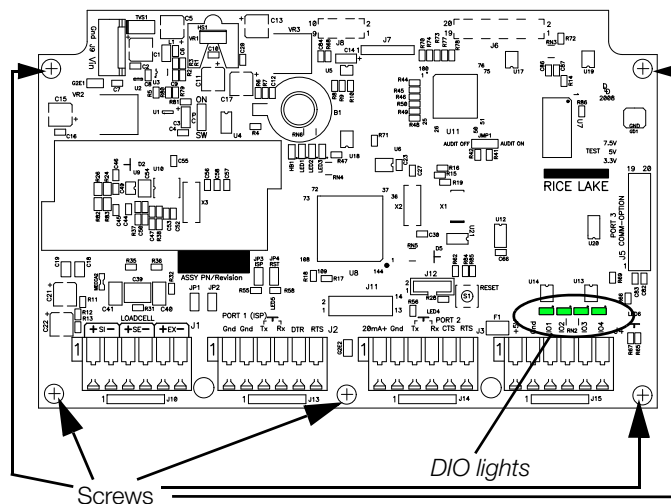

Figure 2-4. Digital I/O lights and screw locations
The Digital I/O can be configured as either digital inputs or digital outputs as determined by the DIO menu (see Section 3.4.4 on page 26). The inputs are active (on) with low voltage (0 VDC) and can be driven by TTL or 5V logic without additional hardware. Use the DIG I/O menu (see Section 3.4.4 on page 26) to configure the digital inputs. LEDs on the CPU board light when digital inputs are active (see Figure 2-4).
Digital outputs are typically used to control relays that drive other equipment. Outputs are designed to sink not source, switching current. Each output is a normally open connector circuit, capable of sinking 24 mA when active. Digital outputs are wired to switch relays when the digital output is active (low, 0 VDC) with reference to 5 VDC supply. LEDs on the CPU board light up when the digital outputs are active (see Figure 2-4).
4. There are two boards: the CPU board and the keypad display board. Remove the five screws connecting the CPU board (see Figure 2-4), then lift the board out of the enclosure.